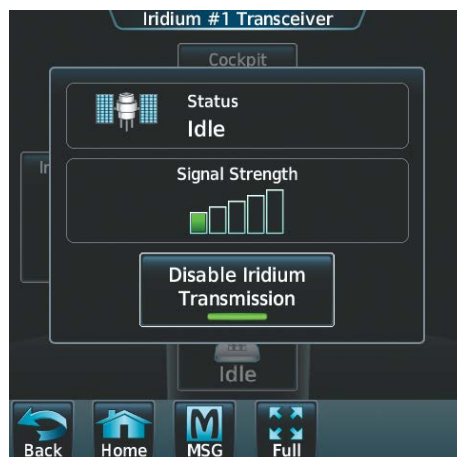

Figure 8-56 Iridium Transceiver Disabled
- 3) Touch the **Disable Iridium Transmission** Annunciator Button to disable (green annunciator as in Figure 8-56) the transceiver. Touch the button again to enable (gray annunciator) the transceiver.